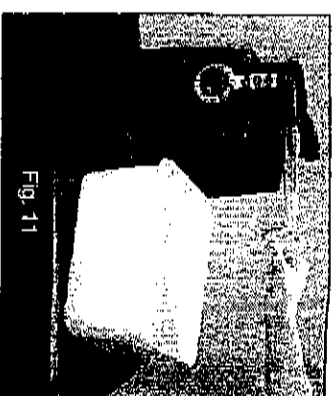

Fig. 11
- Rotate the faucet outward (Fig. 11).